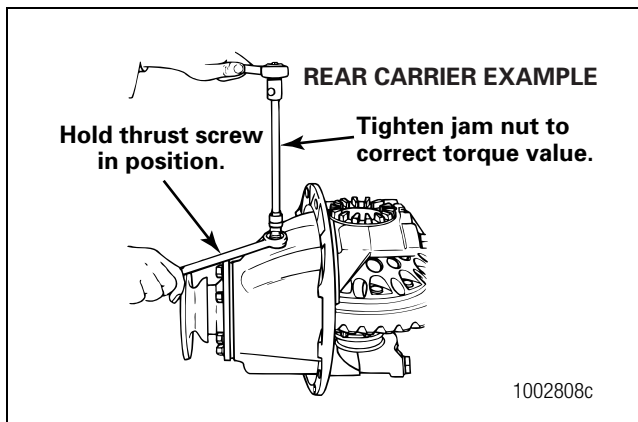

Figure 5.76
5. Tighten the jam nut, if equipped, to the correct torque value against the carrier. Refer to Section 8. Figure 5.76.